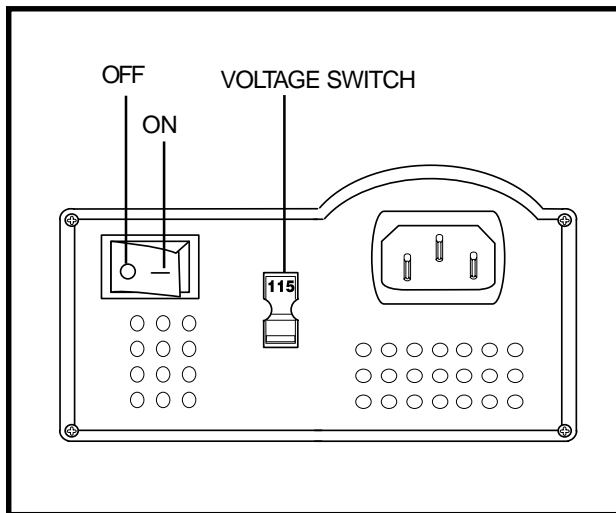

Figure 12. Charger On/Off and Voltage Switches
The off-board charger supplied with your scooter is equipped with a 115/230 voltage switch. Confirm that this switch is in the proper position for your locality. If you are not sure what the voltage is in your country, contact your local electricity provider before inserting the charger power cord plug into your electrical outlet. If the setting is incorrect, the charger will not function properly. Slide the voltage switch to the appropriate position. See figure 12.
7. Turn the charger on. See figure 12. We recommend that you charge the batteries for 8 to 14 hours.